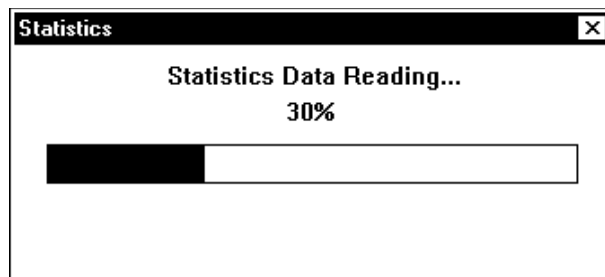

Figure 4.2 Loading the Monitor Data
5. If you selected **OK**, HIHSM loads the monitor data (see Figure 4.2) and then opens the HIHSM Main panel. If you selected **Cancel**, the HIHSM Main panel opens right away.